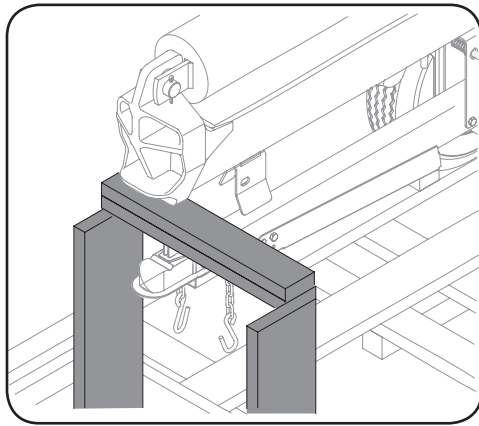

Figure 3-1
- Log Splitter (1)
- Operator's Manual (1)
- Engine Operator's Manual (1)
**WARNING!** Do not remove the beam support or attempt to remove the machine from the crate until after you have completed *all* assembly steps. See Figure 3-1.